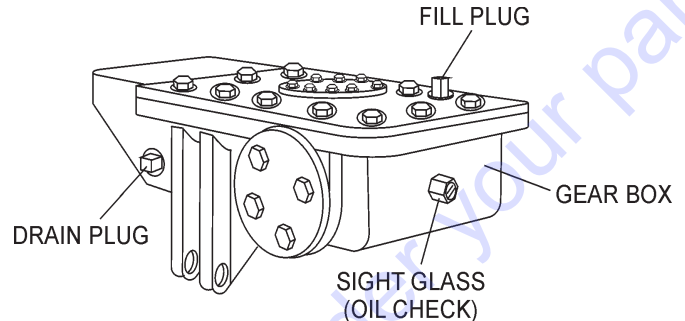

Figure 5. Gearbox Oil Plugs/Sight Glass
1. Check the gearbox oil level in both gearboxes by viewing the sight glass at the rear of the gearbox. See Figure 5.
2. The oil level of the gear box should be at the half-way point of the sight glass (Figure 5). The gear box oil capacity is 144 oz. If additional oil is required, unscrew the oil fill plug located on top of the gearbox, and refill with ISO 220 A GMA GR 5 EP oil.